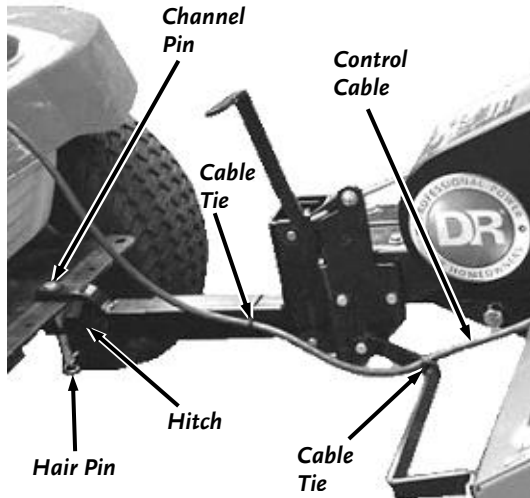

Figure 9
2. Remove the Hair Pin and Channel Pin from the Hitch on the DR ROTO-HOG Power Tiller (**Figure 9**). Position the Hitch onto the Tow Vehicle and reinstall the Channel Pin and Hair Pin.